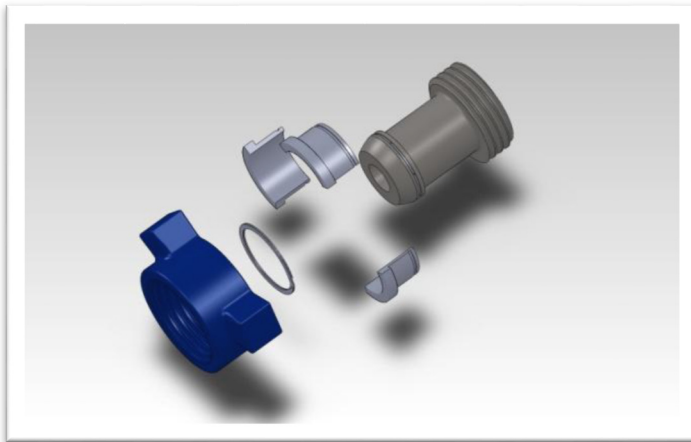

Figure 4
- 1) Assemble detachable nut joint segments, hammer union nut, and retainer clip as shown in figure 4 & 5.